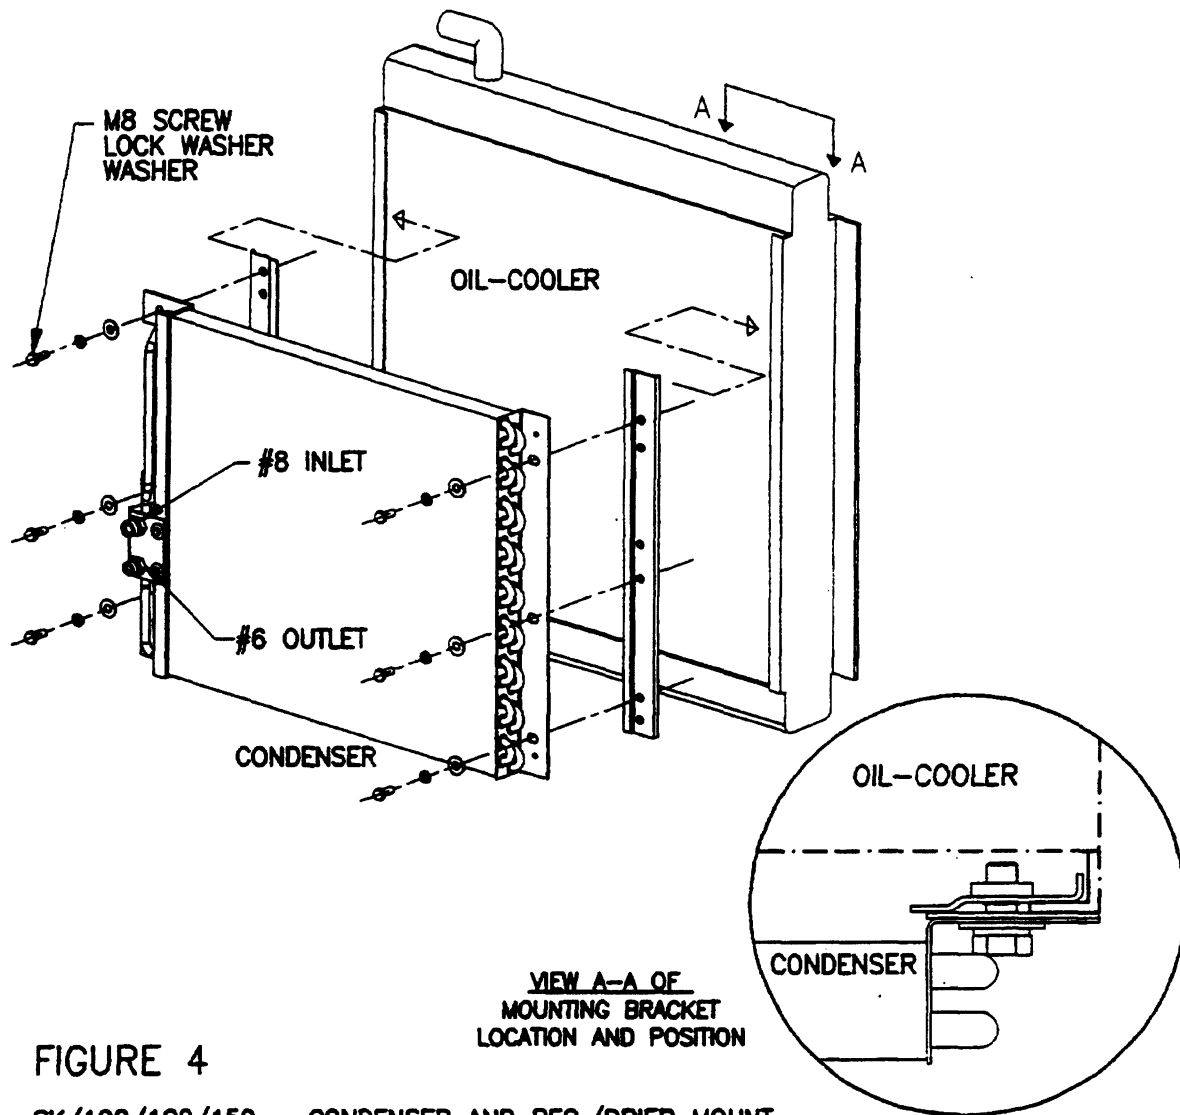

FIGURE 4
1. For SK100/120/150 see Figure 4.